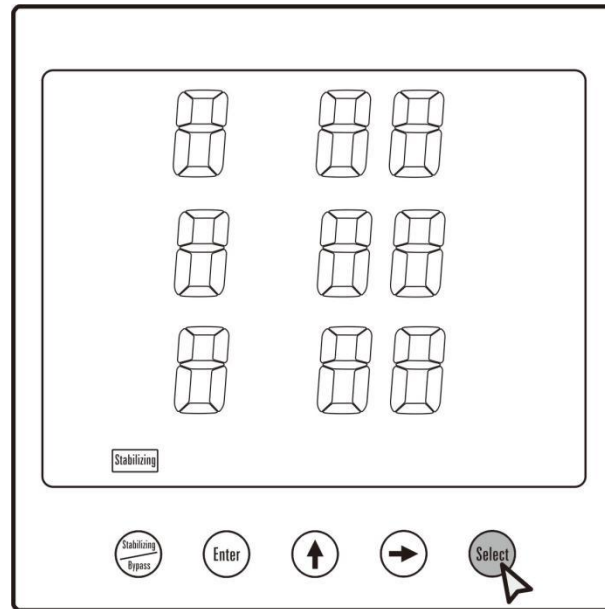

Fig. 7
⑦ Fault code, as shown in Fig. 7;